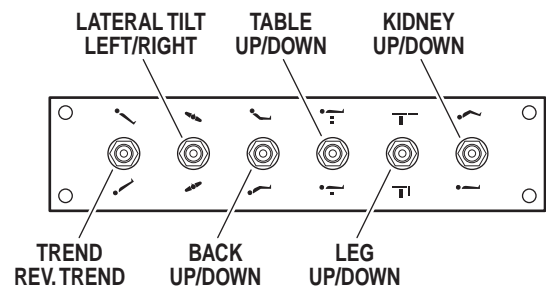

Figure 3-4. Emergency Back-up Controls
b. In the event of either a power failure or a problem with the hand-held pendant control, the table can be operated using the emergency back-up switches. Simply push the desired emergency switch in the appropriate direction to operate the table functions. See figure 3-4. These switches are spring-loaded so they return to the neutral or center position when released.